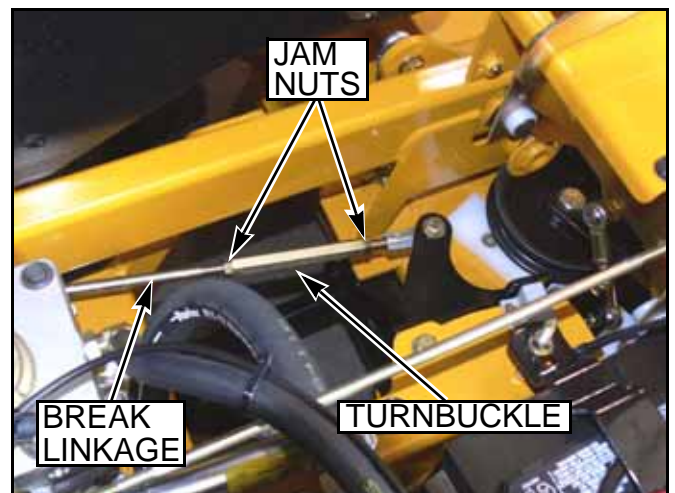

FIG. 29
7. Loosen the brake linkage jam nuts "FIG. 29".